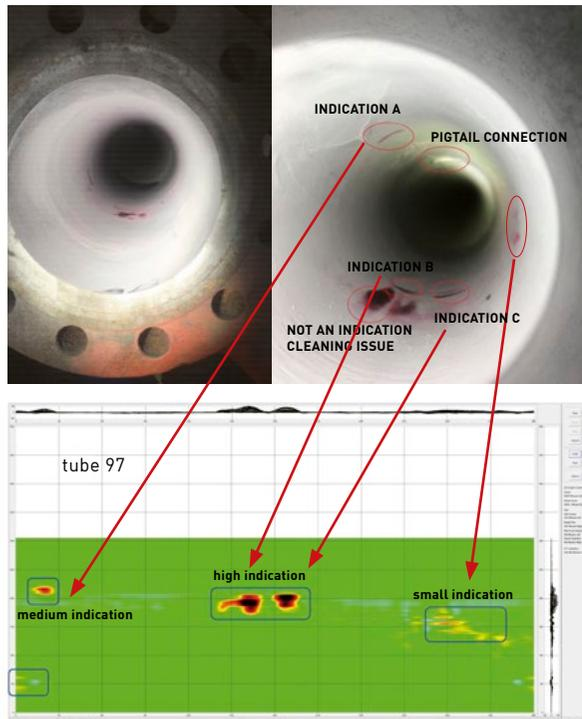

Figure 3: Representative scan of the top end showing defects
Figure 3 displays a typical scan of the top end of the reformer tube, showing cracks in the tube wall that radiate outward from the inside surface. The customer verified the cracks with penetrant testing (PT). Prompt detection of such defects can increase the reliability and protect the value of the asset while ensuring safety.